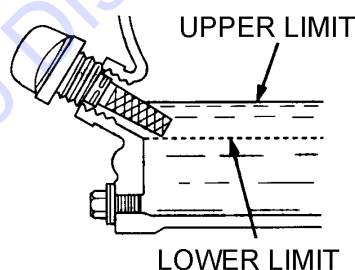

Figure 8. Engine Oil Dipstick (Oil Level)
4. If the oil level is low (See Figure 8), fill to the edge of the oil filler hole with the recommended oil type as listed in Table 6. Maximum oil capacity is 1.16 quarts(1.1 liters).